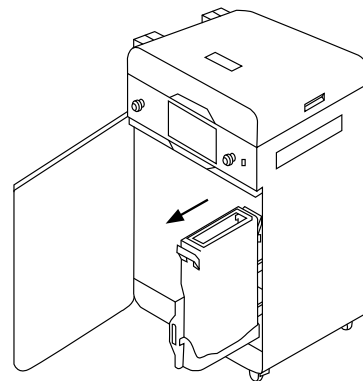

Fig. 9.5 Sliding out the Overflow Bin.
2. Slide out the Overflow Bin (fig. 9.5).